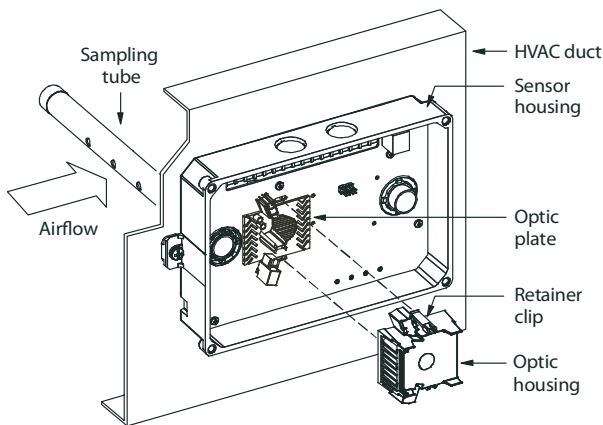

Fig. 25 - Sensor Cleaning Diagram
1. Disconnect power from the duct detector then remove the sensor's cover. (See Fig. 25.)